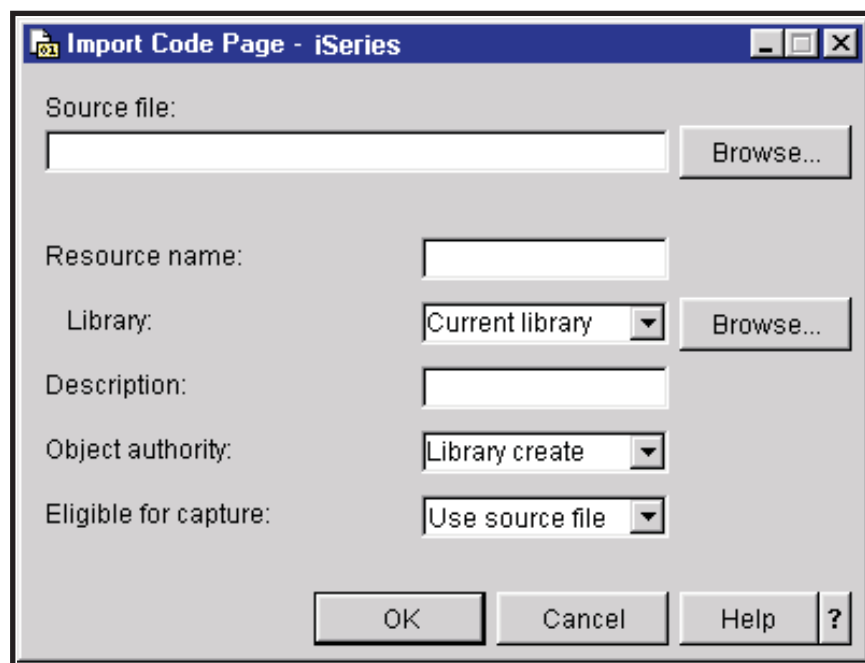

Figure 139. Import Code Page Window
- b. Right-click **Code pages** or **Font character sets**, and select **Import**. A window like the one shown in Figure 139 opens, depending on the type of resource you selected.